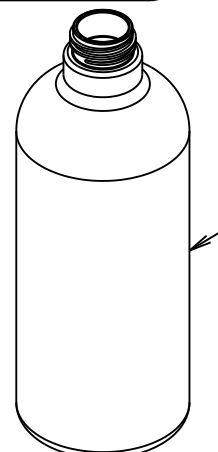

Fig. 3
- i) Drill two Ø6mm holes, 40mm deep and 104mm apart horizontally as shown in Fig. 3.
- ii) Insert small end of wall plugs (15) into drilled holes and tap until flush with wall/tile face.
- iii) Align the slots on fixing plate (14) with the holes on the wall, pass the screws (13) through the slots and insert into the wall plugs (15). Then tighten the screws. DO NOT OVERTIGHTEN.
- i) Drill two holes at 104mm apart horizontally to suit the self tapping screws supplied as shown in Fig. 3.
- ii) Align the slots on fixing plate (14) with the holes on the wall, pass the screws (13) through the slots and insert into the holes in the stud. Then tighten the screws. DO NOT OVERTIGHTEN.